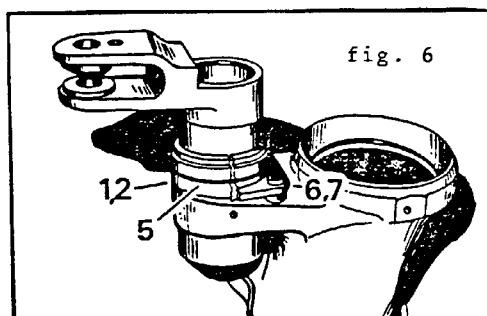

fig. 6
7. Put half shells in place. Smooth the excess squeezed out sealing compound. Mount the o-ring (Item 5, fig. 6) into the groove that goes around both half shells. Screw in the socket head screws (Item 6), with lock-washers (Item 7). Do not tighten yet.